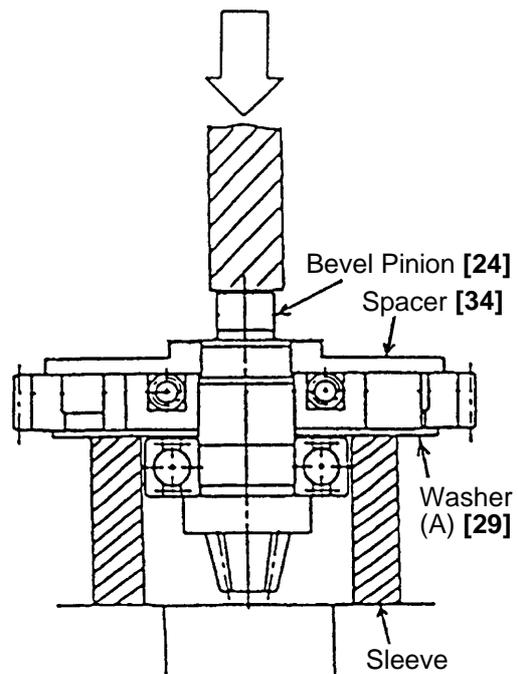

Fig. 16
The Slip Clutch Ass'y can be removed with the following procedure. First pull out the Ball Bearing 629VV **[35]** with a bearing puller (Code No. 970804), support the Washer (A) **[29]** on a sleeve as shown in Fig. 16 and release the Bevel Pinion **[24]** from the press-fitting by pushing it from the Spacer **[34]** side using a hand press. When removing the Gear Holder **[30]** from the Second Gear **[33]**, it is recommended to keep them inside a vinyl bag during disassembly to prevent the Springs (C) **[31]** and Needle Pins **[32]** from scattering.